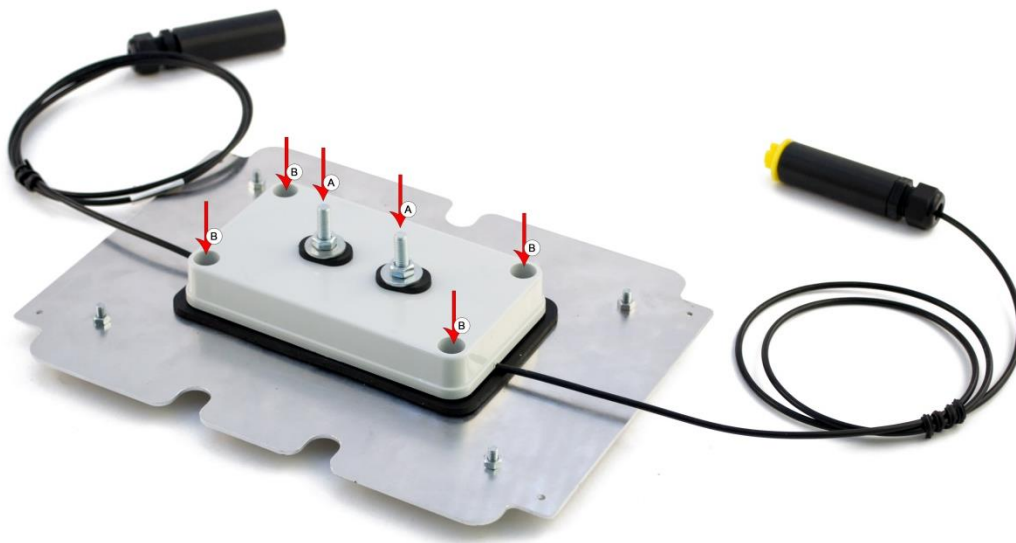

Figure 1: Installation possibilities of the OPC-01 protection cover with SWS-02.
The OPC-01 is possible to be installed above the sensor using bolts, as shown in Figure 1 and either by using 2x or 4x bolts. We recommend using standard metric bolts M4 for the installation.
By using 2x bolts (Figure 1, A) the protective cover is suitable for SWS-02 since the bolts are coming through the middle of the protective cover. These bolts can be used to install the SWS-02 onto the surface and at the same time to fasten the cover above the sensor.
By using 4x bolts (Figure 1, B) the protective cover is suitable for both SWA-01(T) and SWS-02 while installing the sensor using the spot-weldable method. The 4x bolts installation ensures better pressure of the sealing against the installed surface.